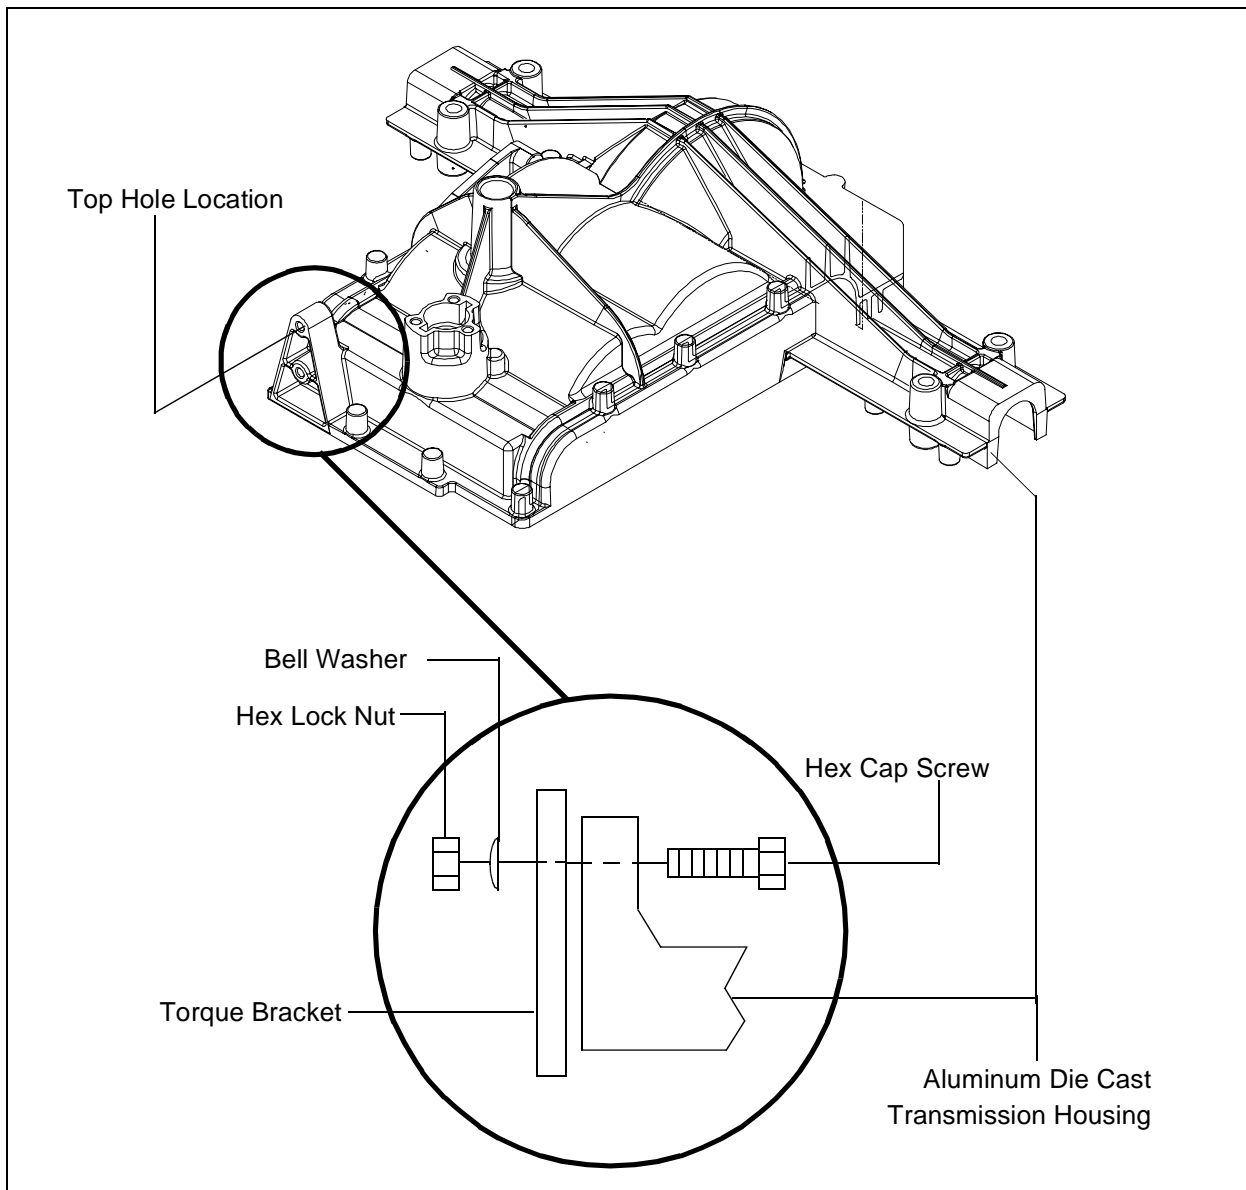

Figure 2
- The head of the hex bolt **MUST** be placed against the transmission housing as shown in Figure 2.